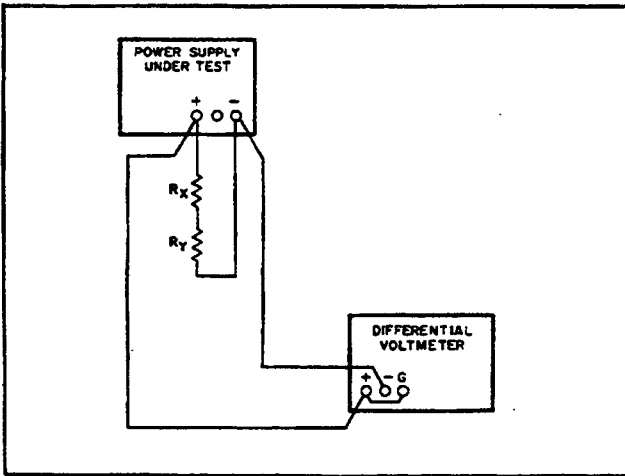

Figure 5-5. Load Regulation, Test Setup
- a. Connect test setup as shown in Figure 5-5.
- b. Connect test setup shown in Figure 5-5.
- Connect test setup shown in Figure 5-5.